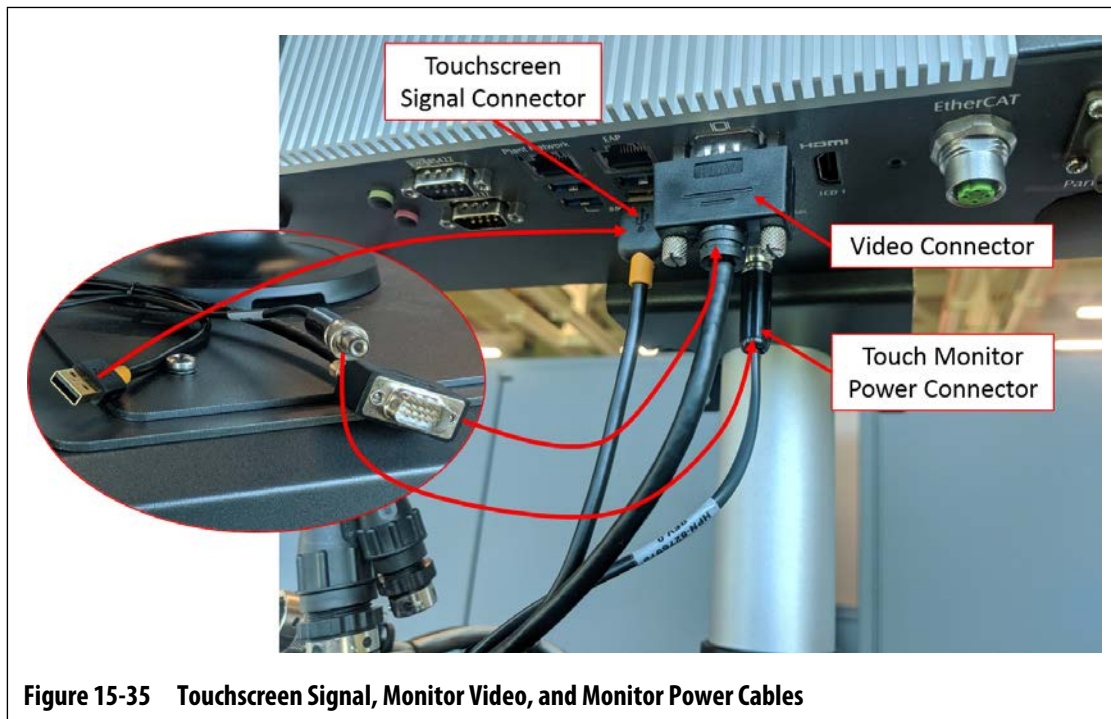

Figure 15-35 Touchscreen Signal, Monitor Video, and Monitor Power Cables
7. Connect the Touchscreen Signal cable connector, Touch Monitor Video cable connector and Touch Monitor Power cable connector to the Touch Screen connector, LCD 12 VDC connector, and VGS connector on the bottom of the MCU. Refer to Figure 15-35.